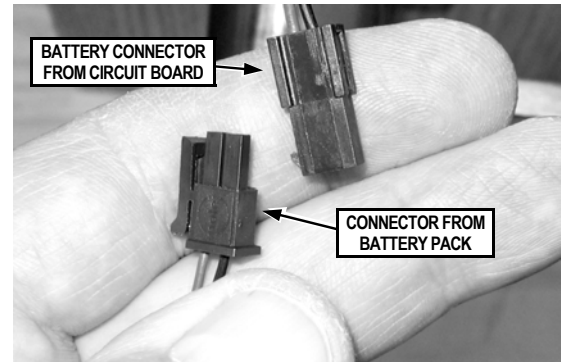

FIG. 17: CONNECT THE BATTERY PACK
- Plug the battery connector into its receptacle. See Fig. 17. Upon connection of the battery pack, you will hear three beeps.